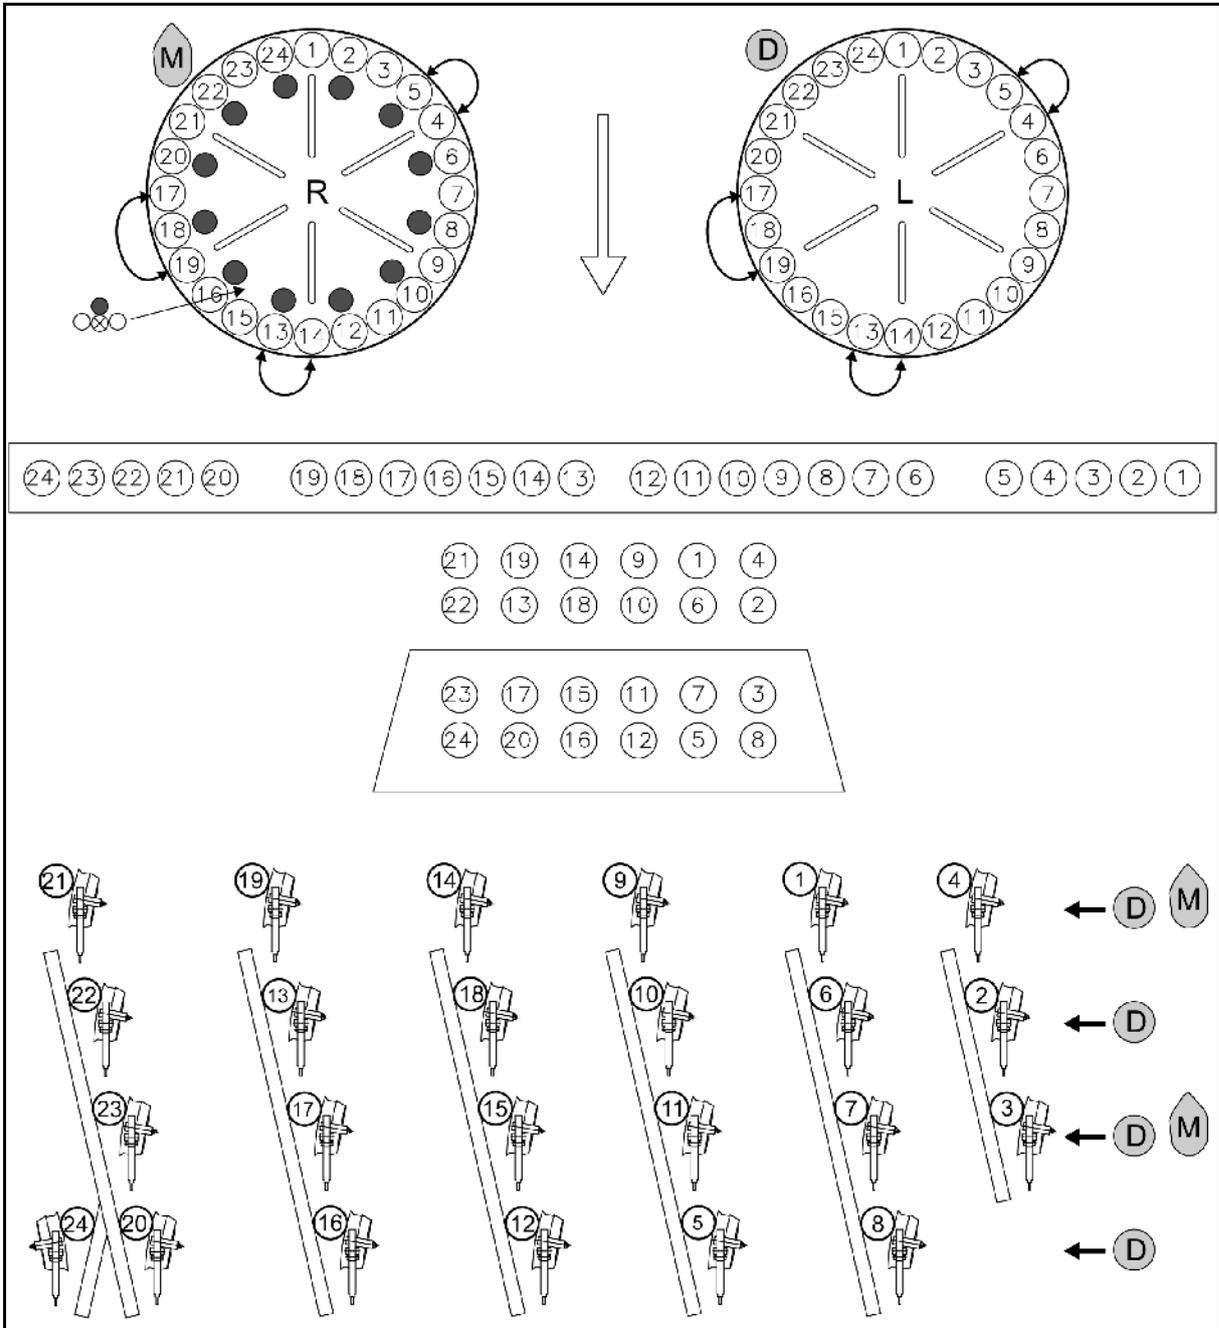

Fig. 45
- Maize M: Install the sealing plugs according to Fig. 45.